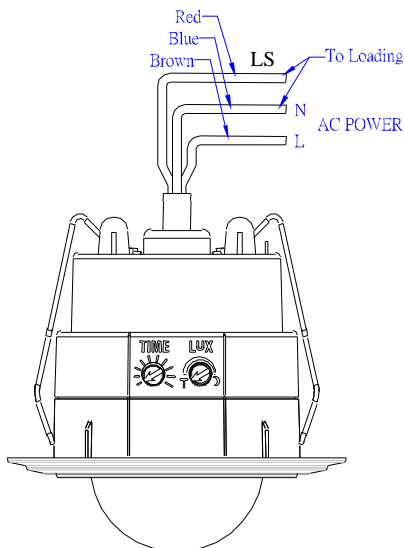

FIGURE 5
- (1) Switch off the power source or wall switch.
- (2) Strip approximately 6-8mm insulating part of the wires from the terminal block.
- (3) The connection of all power cords is at your disposal. The power cord of "LS" and "N" mark is to be connected to any light fixture you have. (FIGURE 5)